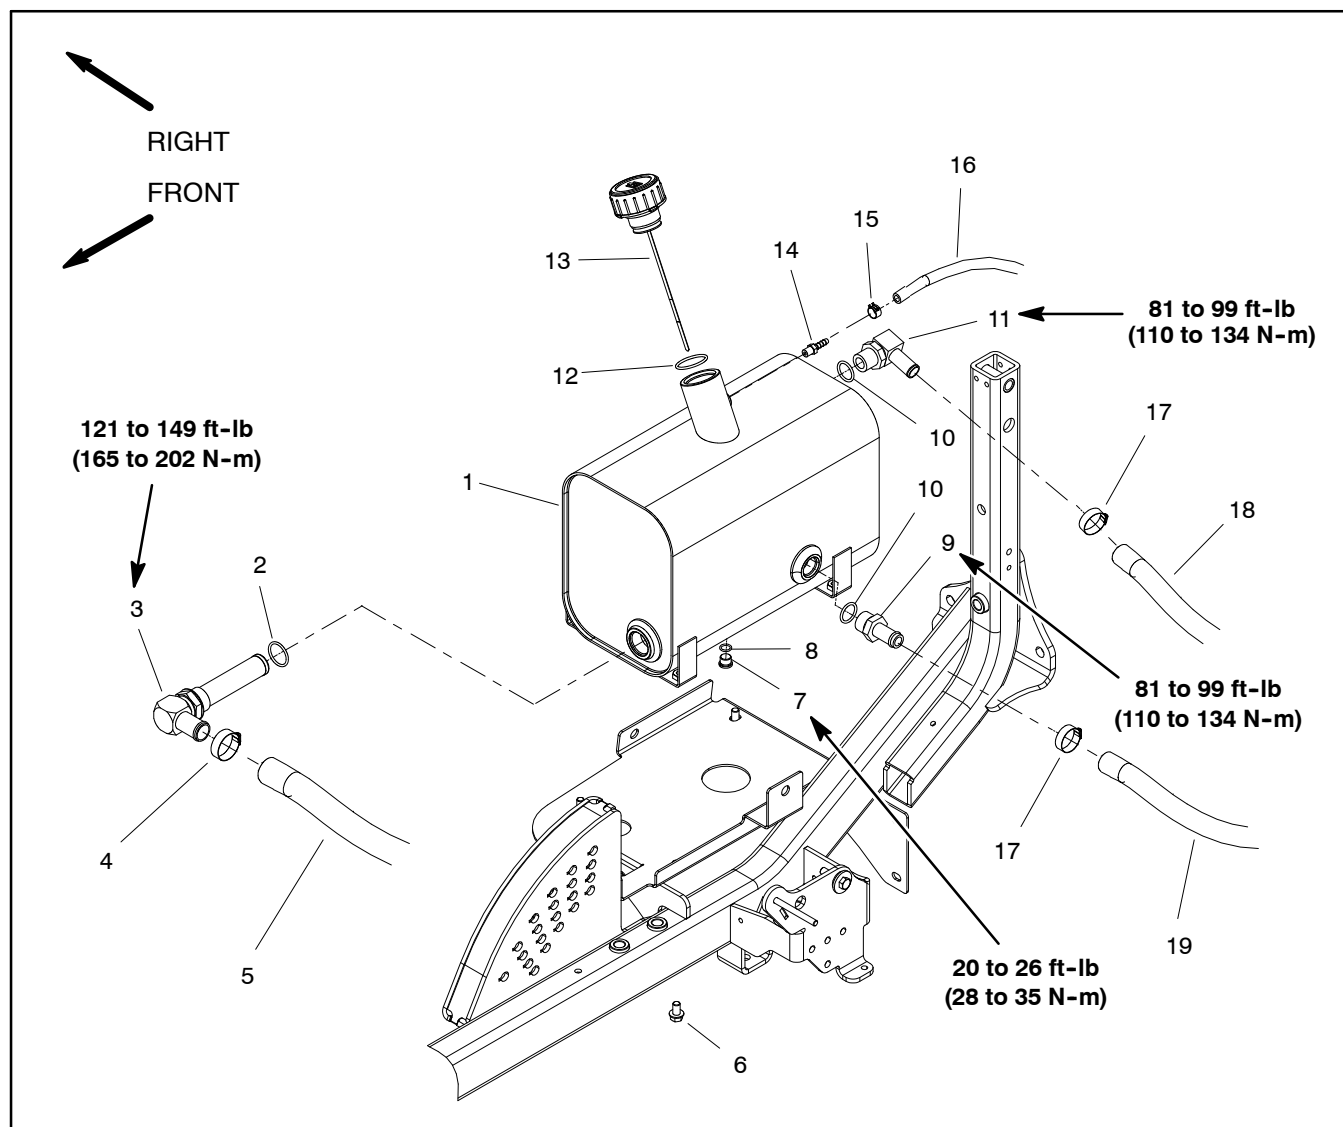
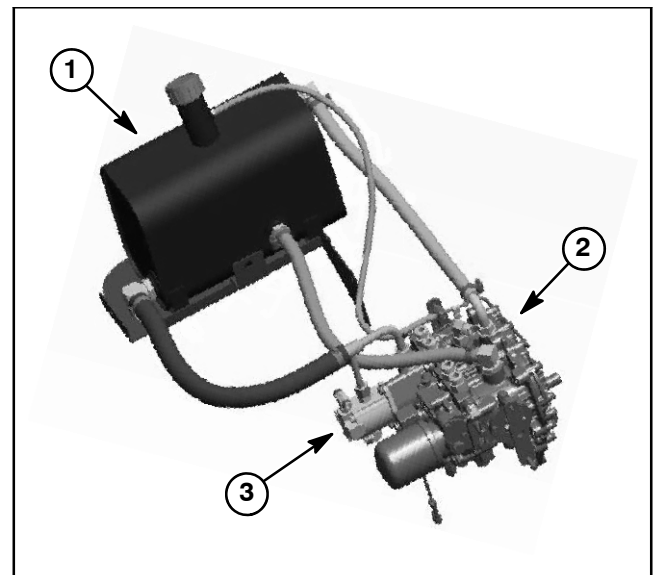

Figure 45
Figure 46
### Hydraulic Tank Removal (Fig. 45)
6. Label all hydraulic hoses and fittings for assembly purposes. Remove hydraulic hoses from fittings on hydraulic tank (Fig. 46). Drain hoses into a suitable container.
8. Remove four (4) flange head screws that secure hydraulic tank to frame.
10. As needed, remove fittings from hydraulic tank using Figure 45 as a guide. Discard and replace any removed O-rings.
### Hydraulic Tank Inspection (Fig. 45)
### Hydraulic Tank Installation (Fig. 45)
1. Attach removed suction strainer and fittings with new, lubricated O-rings to hydraulic tank using Figure 45 as a guide (see Hydraulic Fitting Installation in the General Information section of this chapter). Torque fittings to values identified in Figure 45.
2. Position hydraulic tank to machine. Secure tank to frame with four (4) flange head screws.
4. Using labels placed during removal, attach hydraulic hoses to fittings on hydraulic tank (Fig. 46) (see Hydraulic Hose and Tube Installation in the General Information section of this chapter).